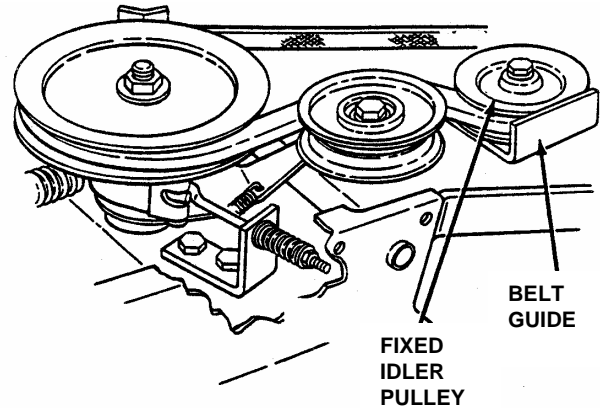

FIGURE 4.13
8. Remove fixed idler. Make sure belt is inside belt guide and idler. See Figure 4.13.